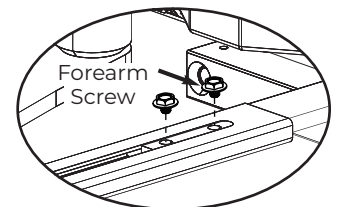

Figure 25
- While holding arm in position, secure forearm to adjusting tube with forearm screw. (Figure 25)